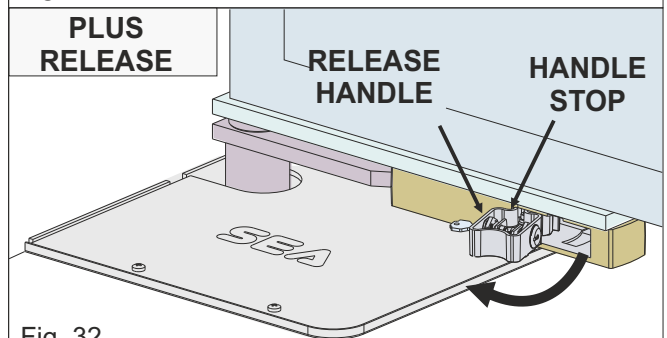

Fig. 32
- pull the key outwards up to its stop in order to extract the handle of the release system (Fig. 32)